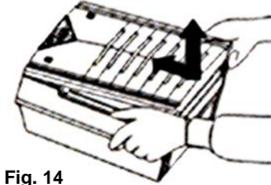

Fig. 14
2. Grasp both corners of the bottom of the air intake grill and pull upwards. (Fig. 14)